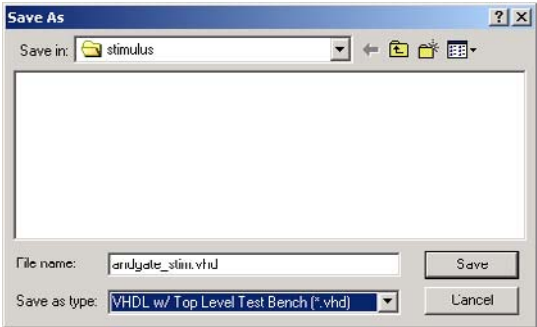

Figure 2-12. Export VHDL Testbench Save As Dialog Box
4. Select **VHDL w/ Top Level Testbench** in **Files of Type** and enter `andgate_stim.vhd` for the file name, as shown in Figure 2-12.